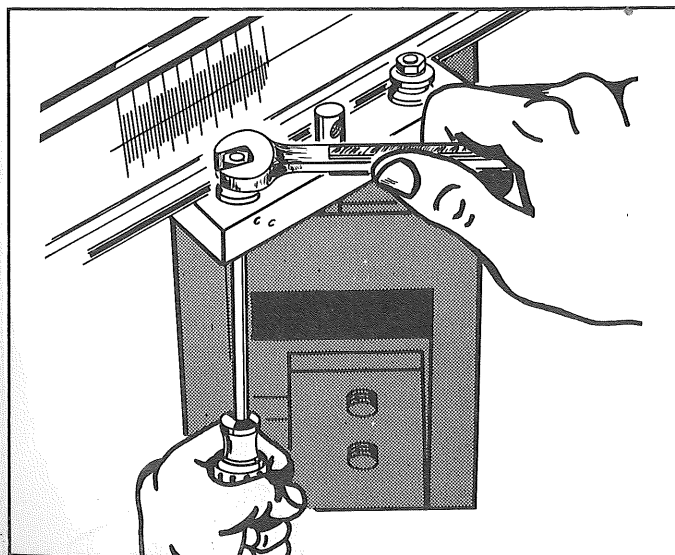

FIG. 9
5. Pivot motor and yoke assembly to the right to expose the adjusting screws under the carriage. Fig. 9.
7. Use screw driver and 1/2" wrench to loosen nut at top of the two right hand bearings. Fig. 9.